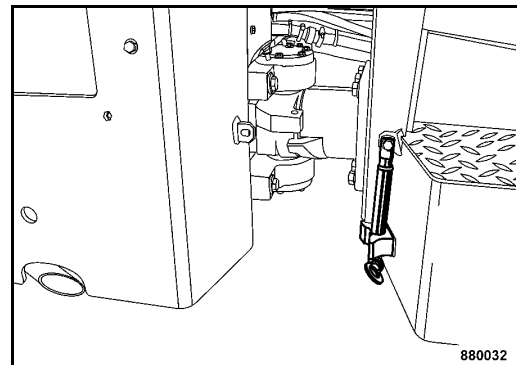

Fig. 116
- Pull the bolt out of the articulation locking bar and swing the locking bar back into its receptacle (Fig. 116).